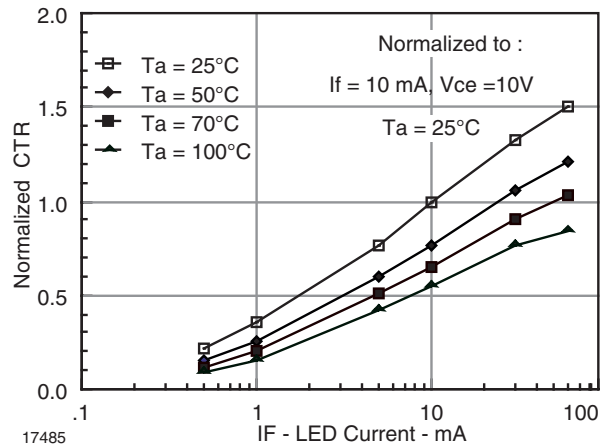
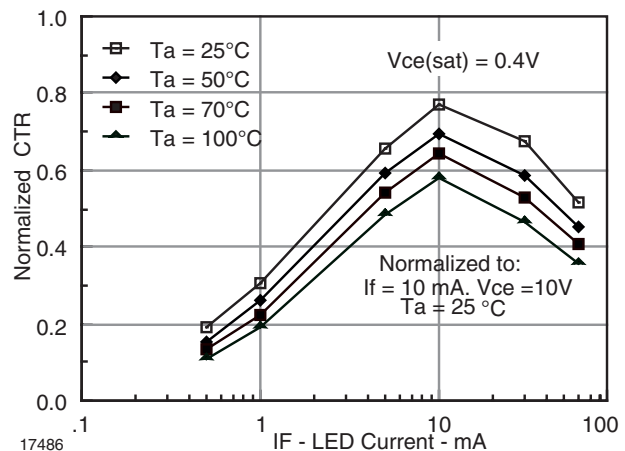

Figure 1. Normalized CTR versus I_F and T_{amb}
Figure 2. Normalized saturated CTR
The gain of the optocoupler is expressed as a Current Transfer Ratio (CTR), which is the ratio of the phototransistor collector current to the LED forward current. The current gain (HFE) of the transistor is dependent upon the voltage between its collector and emitter. Two separate CTRs are often needed to complete the interface design. The first CTR, the non-saturated or linear operation of the transistor, is the most common specification of a phototransistor optocoupler and has a V_{ce} of 10 V. The second is the saturated or switching CTR of the coupler with a V_{ce} of 0.4 V. Figures 1 and 2 illustrate the Normalized CTR_{CE} for the linear and switching operation of the phototransistor. Figure 1 shows the Normalized Non-Saturated CTR_{CE} operation of the coupler as a function of LED current and ambient temperature when the transistor is operated in the linear mode. Normalized $CTR_{CE(SAT)}$ is illustrated in Figure 2. The saturated gain is lower with LED drive greater than 10 mA.
Step 1. Determine $CTR_{CE(SAT)}$ using the normalization factor ($NF_{CE(SAT)}$) found in Figure 2.
From Figure 2 the CTR_{CE(SAT)} = 55 %, [NF_{CE(SAT)} = 0.55]